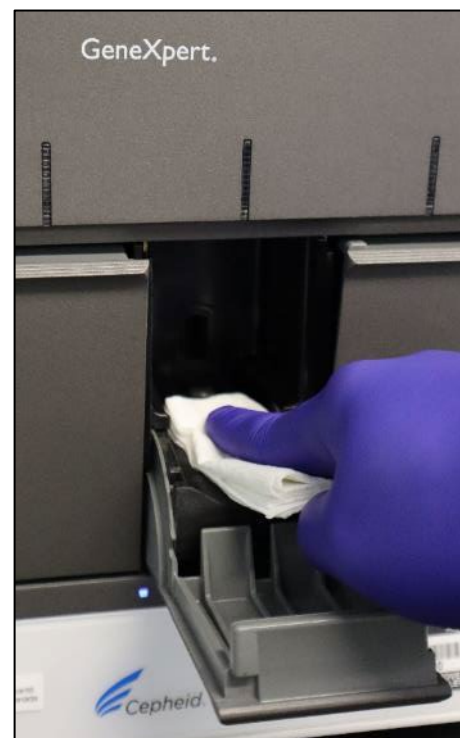

Figure 11. Cleaning a cartridge bay
- B. Wipe the inside of the cartridge bay (Figure 11.).